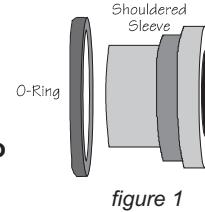

figure 1
1. One set of the shouldered sleeves with O-rings should be installed in the shock eye. If not, insert sleeves with O-rings in the shock eye (see figure 1).